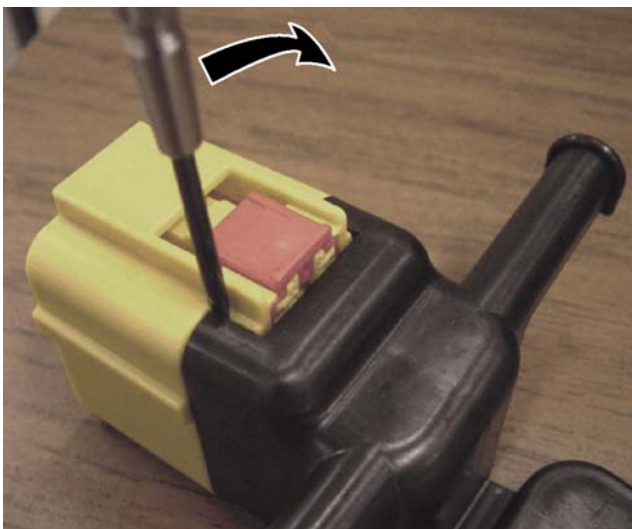

Figure 9
3. Rotate screwdriver toward the center of the connector while applying slight pressure to the opposite side of the strain relief. This will release the first latch. See Figure 9.